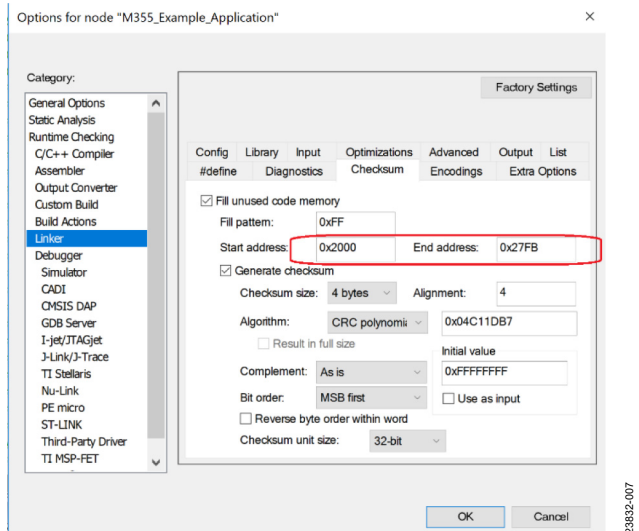

Figure 6. Checksum Calculation
5. The range for the calculation of the checksum for the user application must be adjusted for the changed memory layout. To adjust the checksum calculation within the IAR Embedded Workbench, go to **Linker > Checksum** tab as shown in Figure 6. Enter **0x2000** in the **Start address** box and **0x27FB** in the **End address** box.